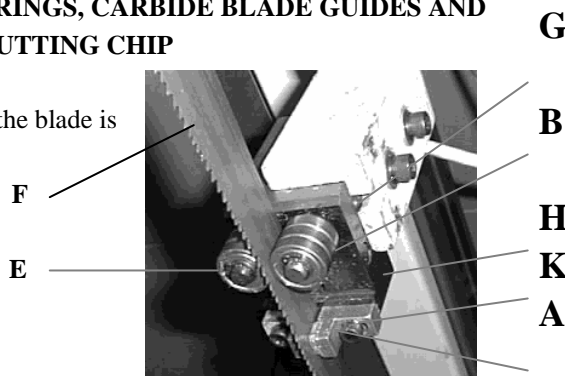

Fig.9
1. The back of the blade (A) (fig. 9) should ride against the back-up bearing (B). To adjust, loosen set screw (C) and move the guide block (D) up or down, until it lightly touches the back of the blade.
- The saw blade (A) should also ride between and lightly touch the two blade guide roller bearings (E) and (F) (fig. 9)
The front bearing (E) (fig. 9) is mounted on an eccentric, and can easily be adjusted to suit blade thickness by loosening set screw (G) and turning shaft (E).
- The carbide blade guides (H) (fig 9) should also be adjusted so they lightly touch the blade by loosening screw (K).
- The blade guide roller bearings, carbide guides and backup bearing on holder (fig 9 and 10) should be adjusted in the same manner.